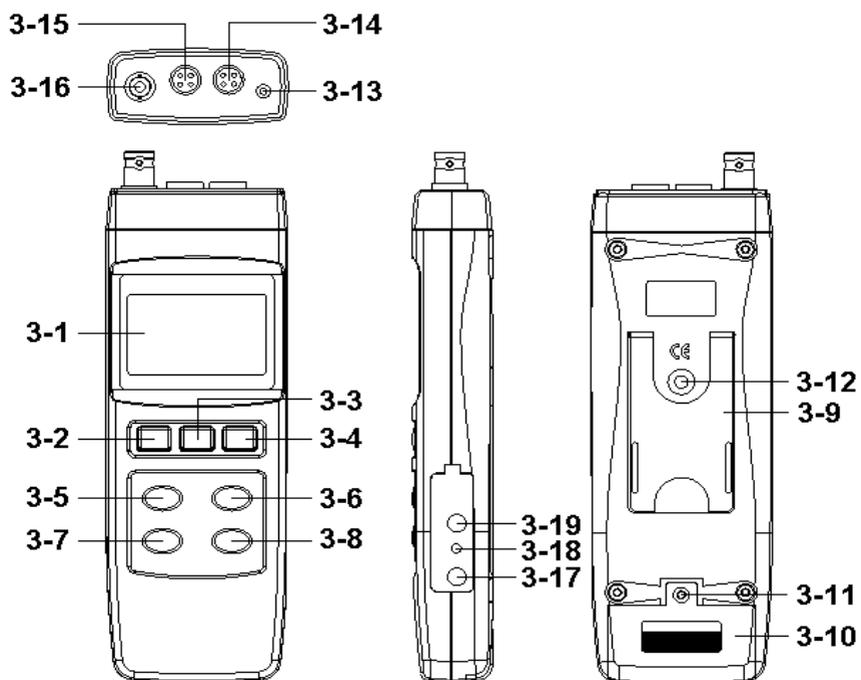
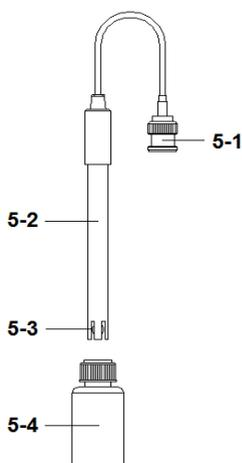

Fig.1
Fig. 2
(3-2, Fig. 1) momentarily.
* *Pressing the " Power Button " (3-2, Fig. 1)
Use the " Function Button " (3-6, Fig. 1) Key to select intent test
- 1) Power on the meter by pressing " Power Button " (3-2, Fig. 1) once.
Use the " Function Button " (3-6, Fig. 1) Key, select to pH measurement Function.
- 2) Prepare the pH Electrode (optional), install the " Probe Plug " (5-1, Fig. 2) into the " PH Socket/BNC Socket " (3-16, Fig. 1).
- 4) Hold the " Electrode Handle " (5-2, Fig. 2) by hand and let the " Sensing head " (5-3, Fig. 2) immersed wholly into the measured solution and little shake the electrode.
but should prepare one temperature probe (optional, TP-07), insert the TP-07's plug into the " Temp. Socket " (3-13, Fig. 1), immerse the sensing head of temperature probe (TP-07) into the measurement solution.
When not use the Electrode, it should immerse the " Electrode sensing head " (5-3, Fig. 2) into the " Protection bottle " (5-4, Fig. 2)
- 1) Use the " Function Button " (3-6, Fig. 1) Key, select to mV (ORP) measurement Function.
- 2) Prepare the ORP Electrode (optional, ORP-14), install the " Probe Plug " of ORP electrode into the " PH Socket/BNC Socket " (3-16, Fig. 1).
- 1) Prepare the pH Electrode (optional), install the " Probe Plug " (5-1, Fig. 2) into the " PH Socket/BNC Socket " (3-16, Fig. 1).
- 2) Power on the meter by pressing " Power Button " (3-2, Fig. 1) once.
- 4) Hold the " Electrode Handle " (5-2, Fig. 2) by hand and let the " Sensing head " (5-3, Fig. 2) immersed wholly into the measured solution and little shake the probe. Display will show the PH value.
- 5) Use the two fingers to press the " ▲ Button " (3-5, Fig 1) and " ▼ Button " (3-6, Fig. 1) at the same time. Until Display will show the following screen then release the both fingers.
- 6) Press the " ▲ Button " (3-5, Fig. 1) or " ▼ Button " (3-6, Fig. 1) once in sequence to select the following screen.
- * After the above a, b, c screen is selected, then cooperate the relative standard solution, for example the ***b screen should cooperate the pH 7.00 standard solution.*** ***a screen should cooperate the pH 4.00 standard solution.*** Press the " Enter Button " (3-8, Fig. 1) will save the calibration data and finish the calibration procedures.
- * If select the d screen, press the " Enter Button " (3-8, Fig. 1) will clear existing calibration data.